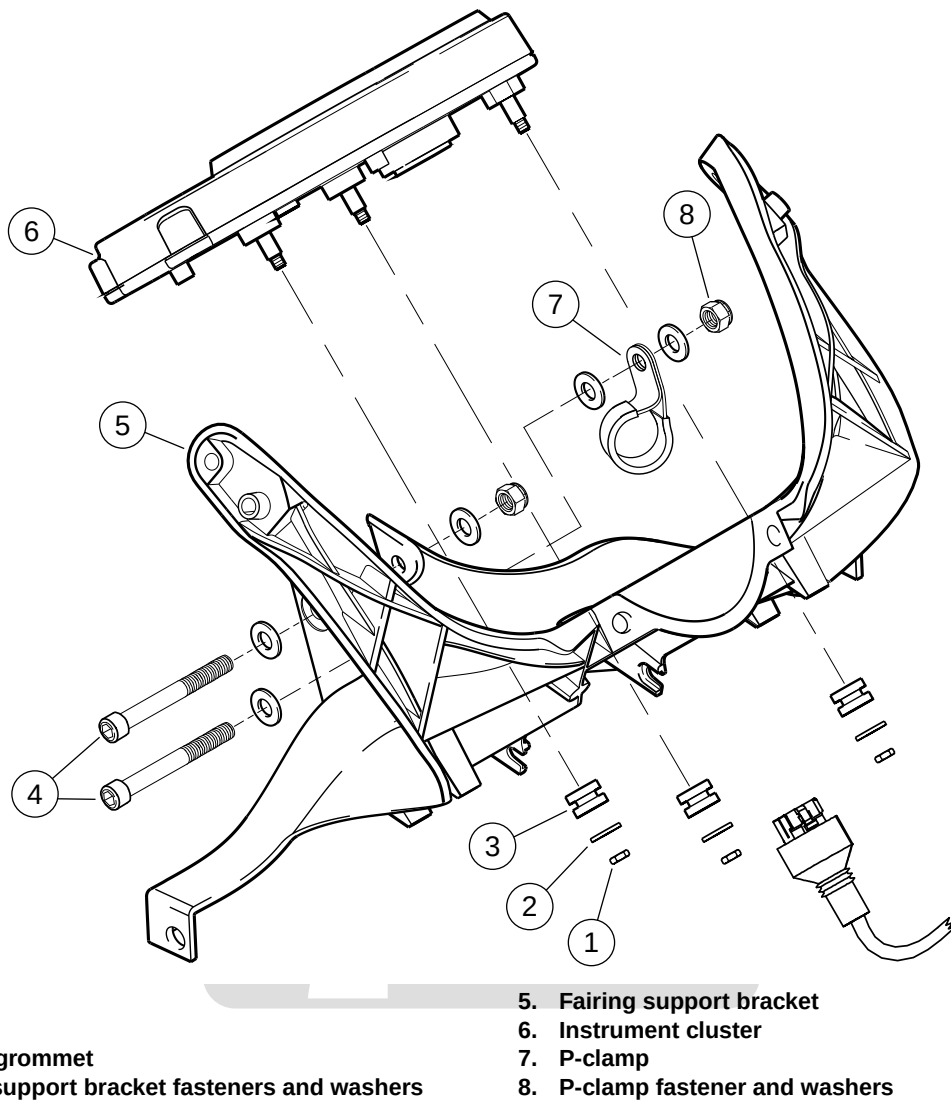

Figure 2-145. Fairing Support Bracket Assembly: Firebolt
8. See Figure 2-145. Remove fairing support bracket fasteners and washers (4), p-clamp (7) to remove fairing support bracket (5).
2. See Figure 2-145. Install fairing support bracket with fasteners and washers (4, 8) and p-clamp (7). Tighten to 16-18 ft-lbs (22-26 Nm).